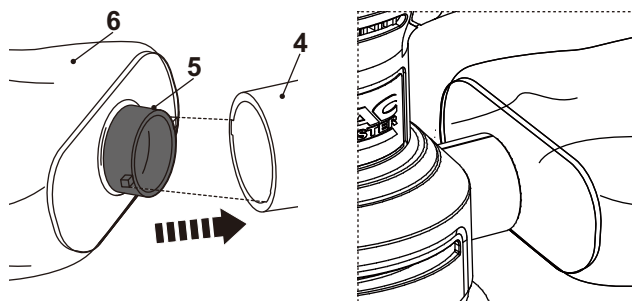
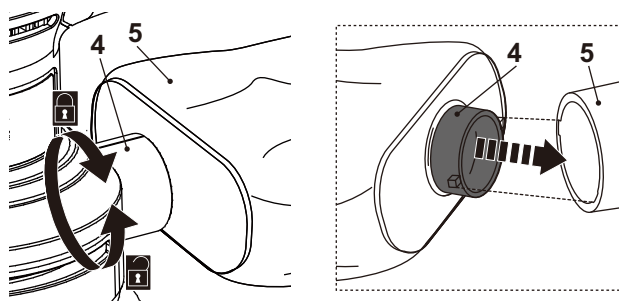

Fig. 2
Fig. 3
1. Attach the dust collection bag (6) to the dust extraction outlet (4). Fig. 2
2. Then rotate the dust collection connector (5) clockwise to a fixed position.
3. Fig. 3
4. To remove the dust collection bag (6), rotate the dust collection connector (5) counterclockwise Fig. 3. and pull the bag off Fig. 3. .
5. To empty the dust collection bag, remove the bag from the dust collection connector (5).